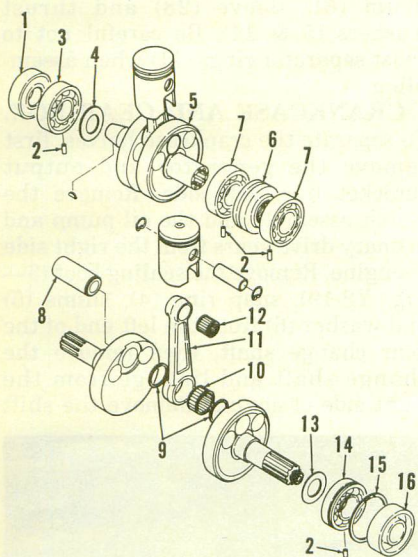

Fig. Y8-14—Exploded view of the crankshaft assembly.
Fig. Y8-16—When installing crankshaft, make certain that dowels (D) engage holes in all four main bearing outer races. Align open space of snap ring (15—Fig. Y8-14) with oil groove (G).